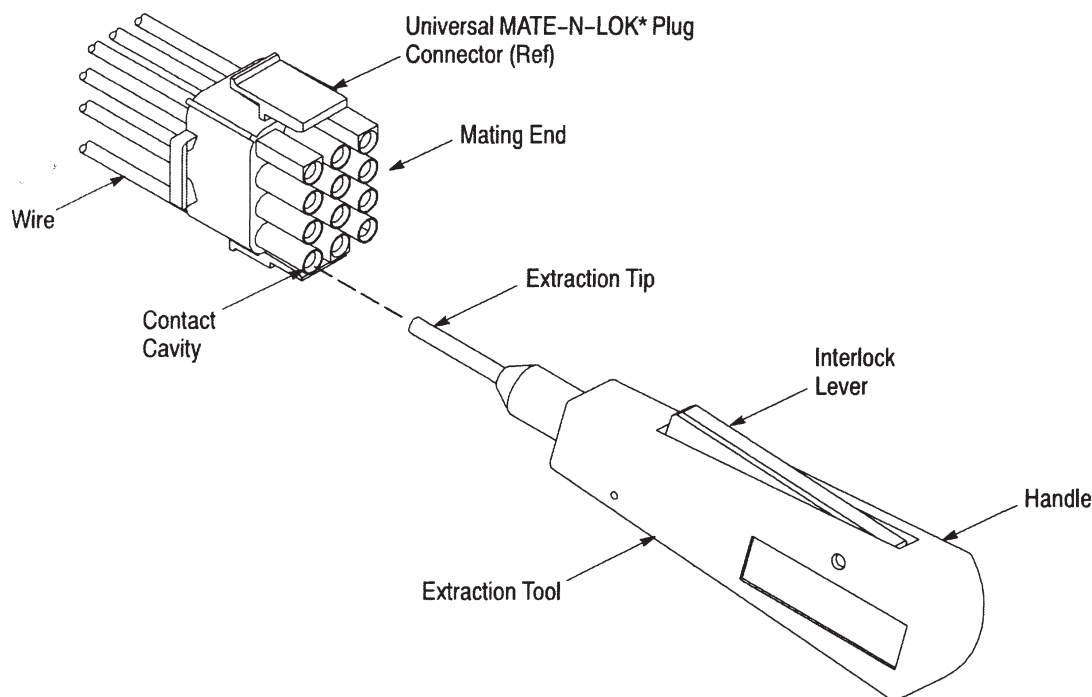

Figure 1
2. Depress, and hold the interlock lever. Insert the extraction tip into the contact cavity of the contact to be removed, and slide it over the contact. Refer to Figure 1.